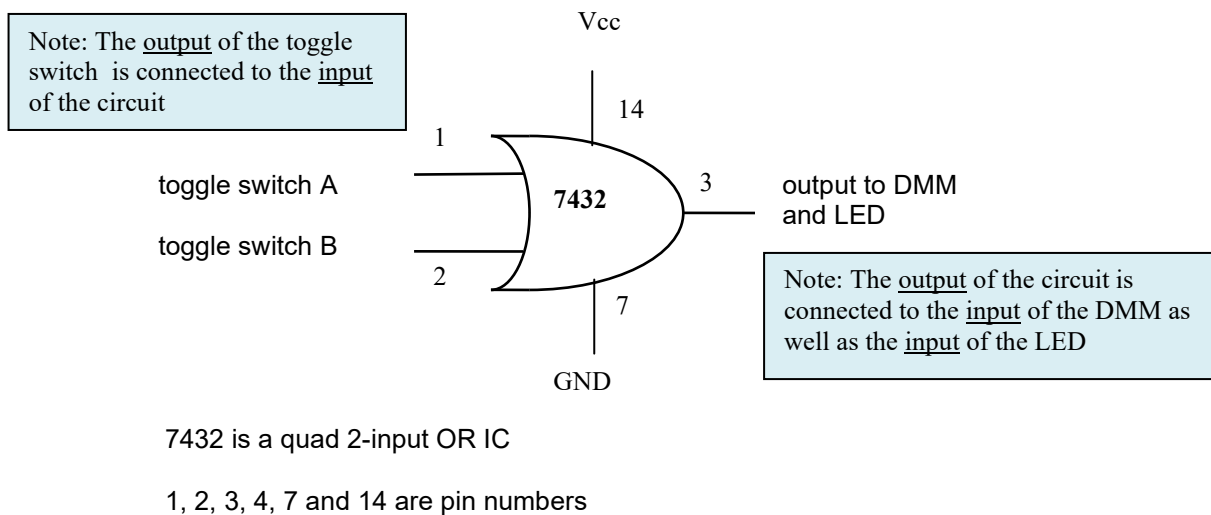

Figure 1: Logic circuit connection diagram (OR gate)
- 4.4 For preparation of the lab, you are expected to use a logic circuit connection diagram, such as the one shown in Figure 1. This diagram is drawn with reference to the device's pinout configuration (see Appendix) stipulated on its datasheet. The actual pin numbers may vary depending on which one of the several logic gates on the device that you choose to use.